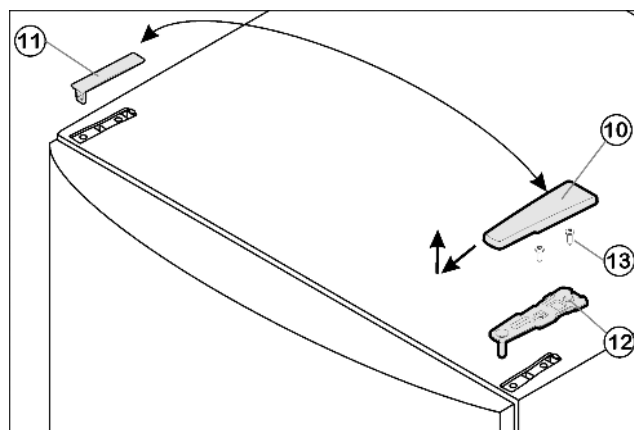

Fig. 4
- ▶ Pull off the cover Fig. 4 (10) forwards and upwards.
- ▶ Lift off the cover Fig. 4 (11).
- ▶ Unscrew the upper turn hinge Fig. 4 (12)(2x Torx® 25) Fig. 4 (13) and lift it off.
- Insert the upper turn hinge Fig. 4 (12) in the door on the new hinge side.
- Screw the upper turn hinge Fig. 4 (12) **firmly** into place (with 4 Nm) (2x Torx® 25) Fig. 4 (13). Possibly make preliminary holes with a bradawl or use a cordless screwdriver.
- Snap the cover Fig. 4 (10) and cover Fig. 4 (11) into place at the opposite side.